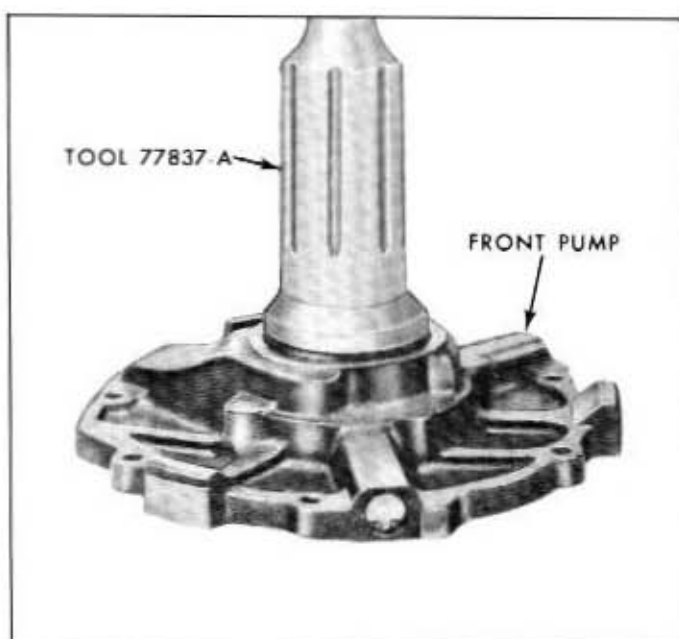

Fig. 7A-19—Front Pump Seal Installation—(60C-4419)
1. Install the converter pressure relief valve and the converter-out check valve and their related parts. Refer to figure 7A-18. Use Pliers, Tool 33621, to install the snap rings.